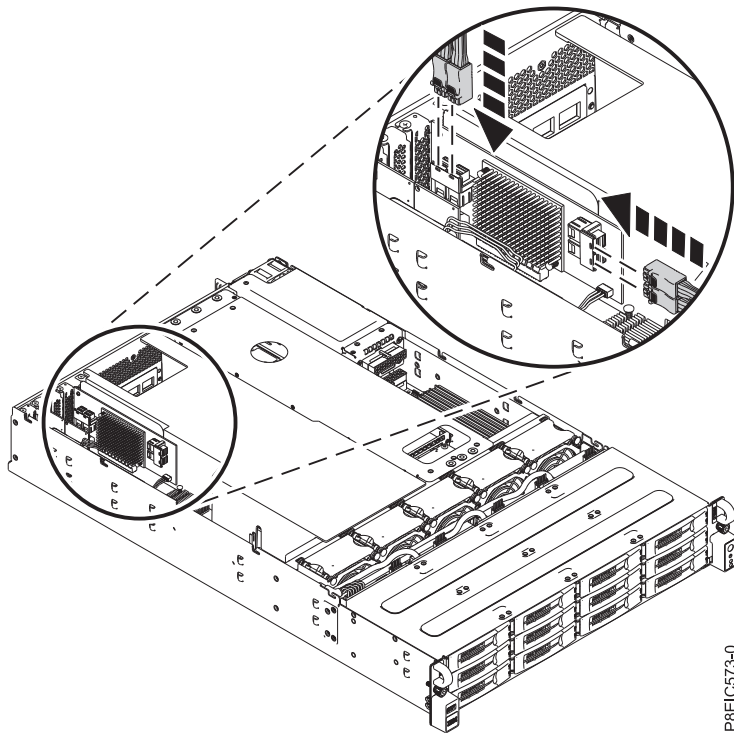
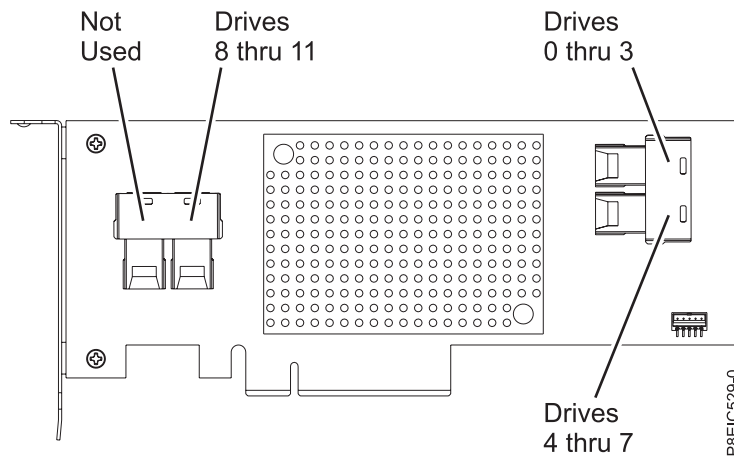
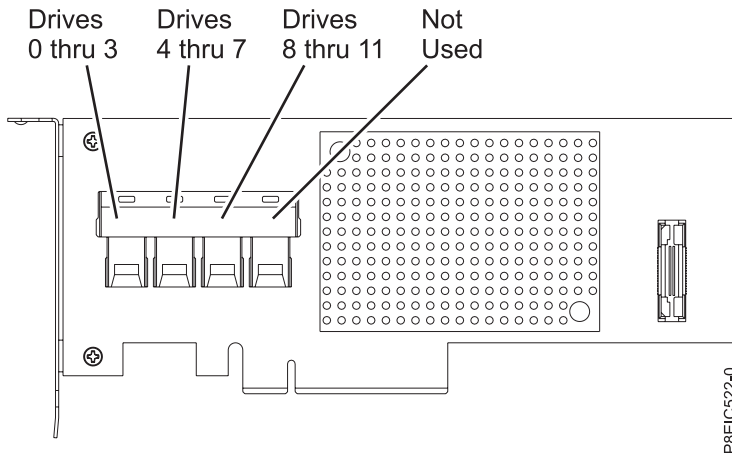

Figure 34. Connecting the drive signal cables
Figure 35. Feature EC3S drive cable connector details
Figure 36. Feature EC3Y drive cable connector details
- Using the labels, connect the three drive signal cables to their corresponding connectors on the drive PCIe adapter, as shown in Figure 34, Figure 35, and Figure 36 on page 30. Ensure that the cable latch clip snaps into place on the connector.